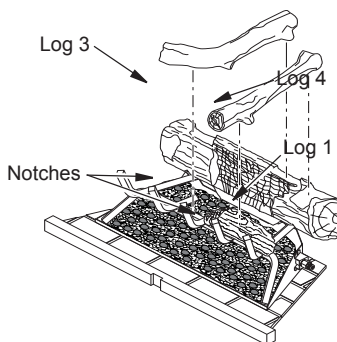
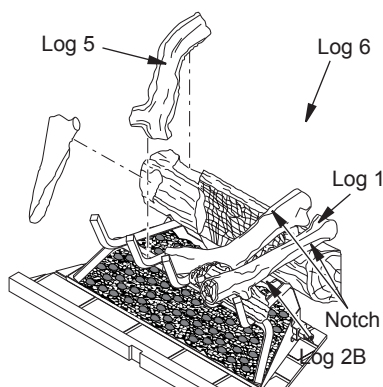
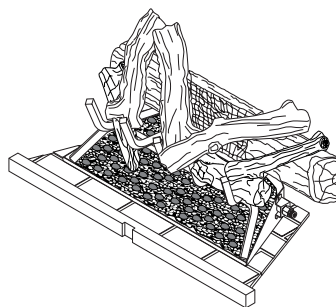

Figure 28 - Installing Logs 3 and 4
Figure 29 - Installing Logs 5 and 6
Figure 30 - Logs Installed for
3. Place log 3 into notch on top left of log 1, resting lower end on left two grate fingers (see Figure 28).
4. Place upper end of log 4 into notch on log 1 as shown in Figure 28. Rest lower end of log 4 on the middle grate finger as shown in Figure 29.
5. Place upper end of log 5 into notch on top inner right of log 1 (see Figure 29). Rest lower end of log 5 on middle grate finger as shown in Figure 30.
6. Place log 6 into notch on top right of log 1 (see Figure 29). Rest lower end of log 6 on top of log 2B (see Figure 30).